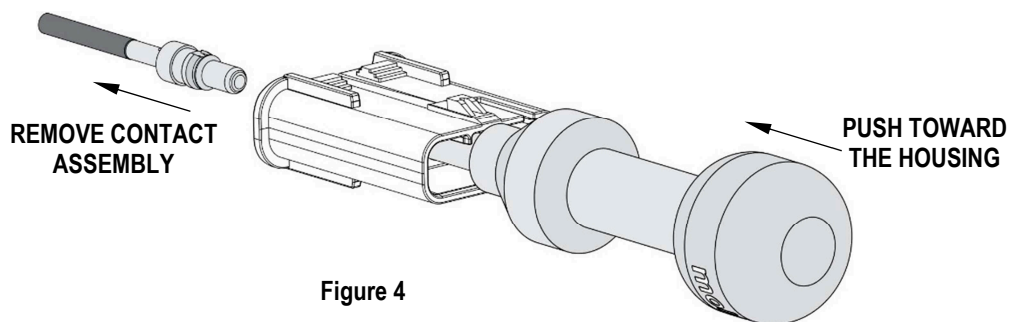

Figure 4
4. Using one hand, grasp the housing body, and place your other hand on the push-out knob. The contact assembly can now be pushed out of the housing by pushing on the push-out knob in the direction shown. See Figure 4. Do not grasp the tool body when attempting to push out the contact terminal.
5. With the push-out knob pushed forward, the contact assembly is unlatched from the housing and can now be removed from the housing. See Figure 4.